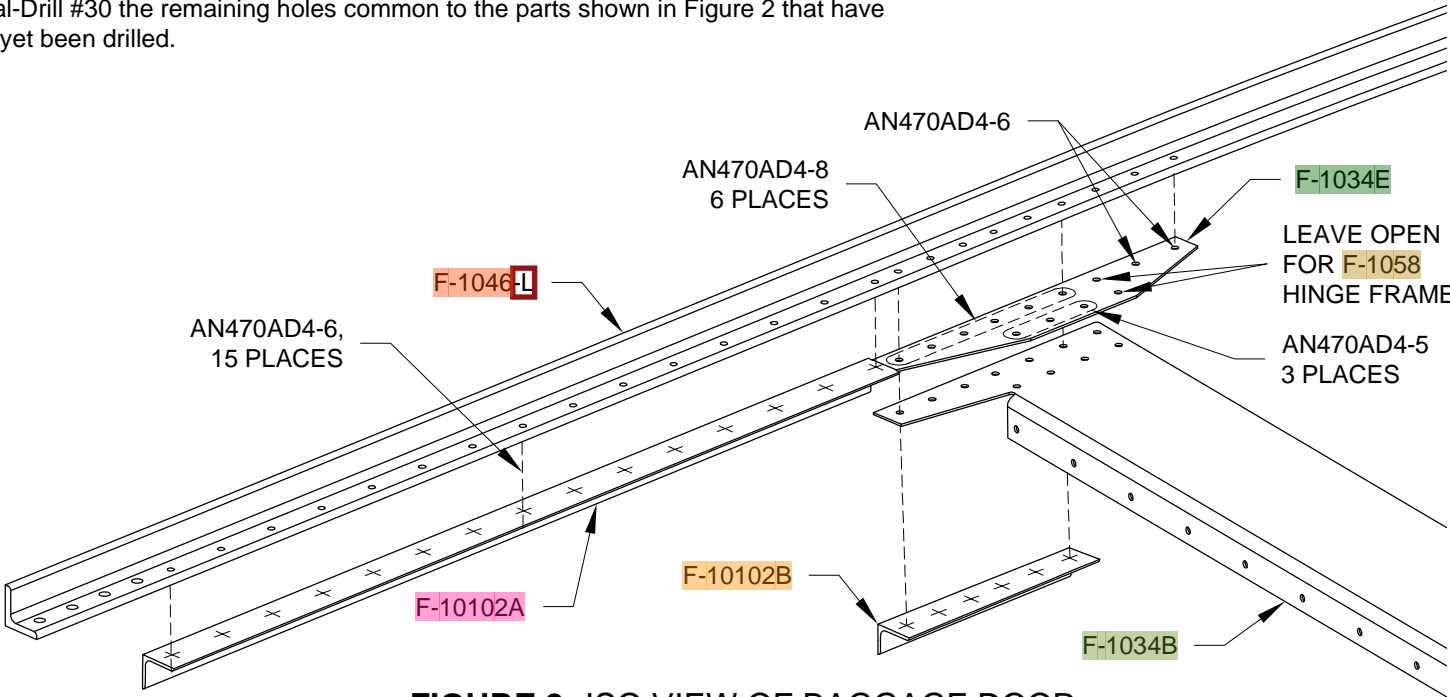

FIGURE 2: ISO VIEW OF BAGGAGE DOOR SEAL ANGLE INSTALL
Step 4: Butt the aft end of the F-10102B Baggage Door Seal Angle against the forward end of the F-10102A Baggage Door Seal Angle (see Figures 2 and 4). Offset the F-10102B Baggage Door Seal Angle a 1/16" inboard of the mid fuse longeron and clamp it in position.
Final-Drill #30 the remaining holes common to the parts shown in Figure 2 that have not yet been drilled.